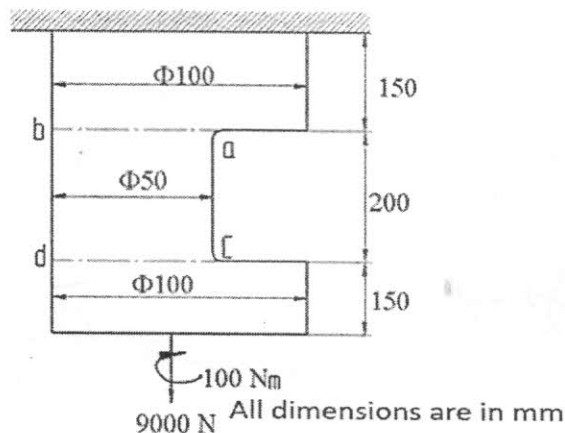

Fig. Q1 (b)
- b) A steel member is loaded as shown in Fig. Q1 (b). Determine the magnitude of